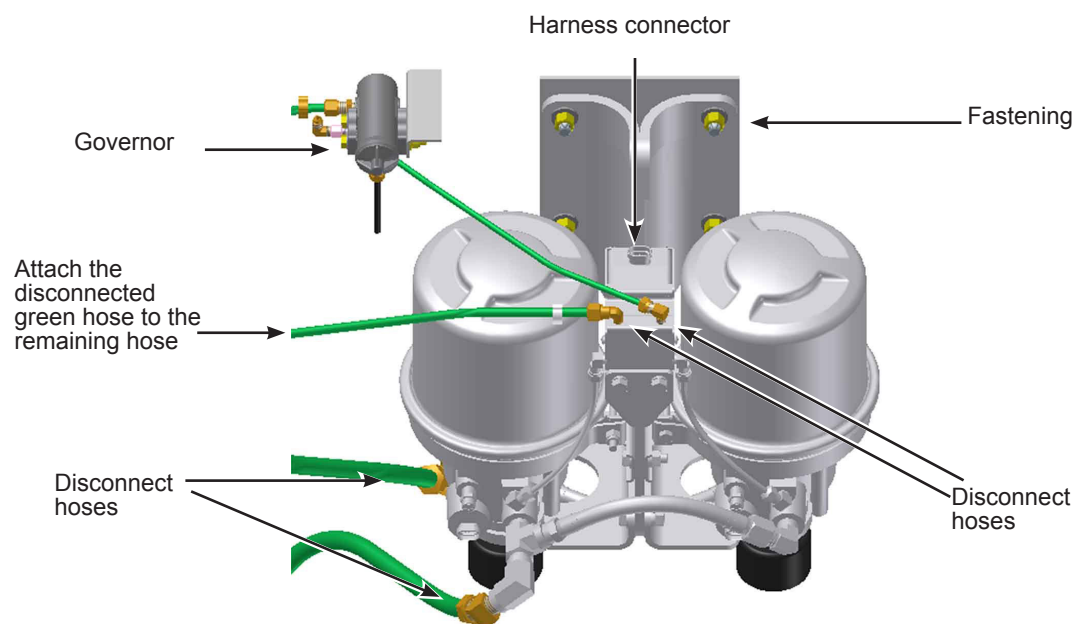

Figure 2 - Air Dryer Assembly
1.3. Identify and disconnect the four hoses. See Figure 2.